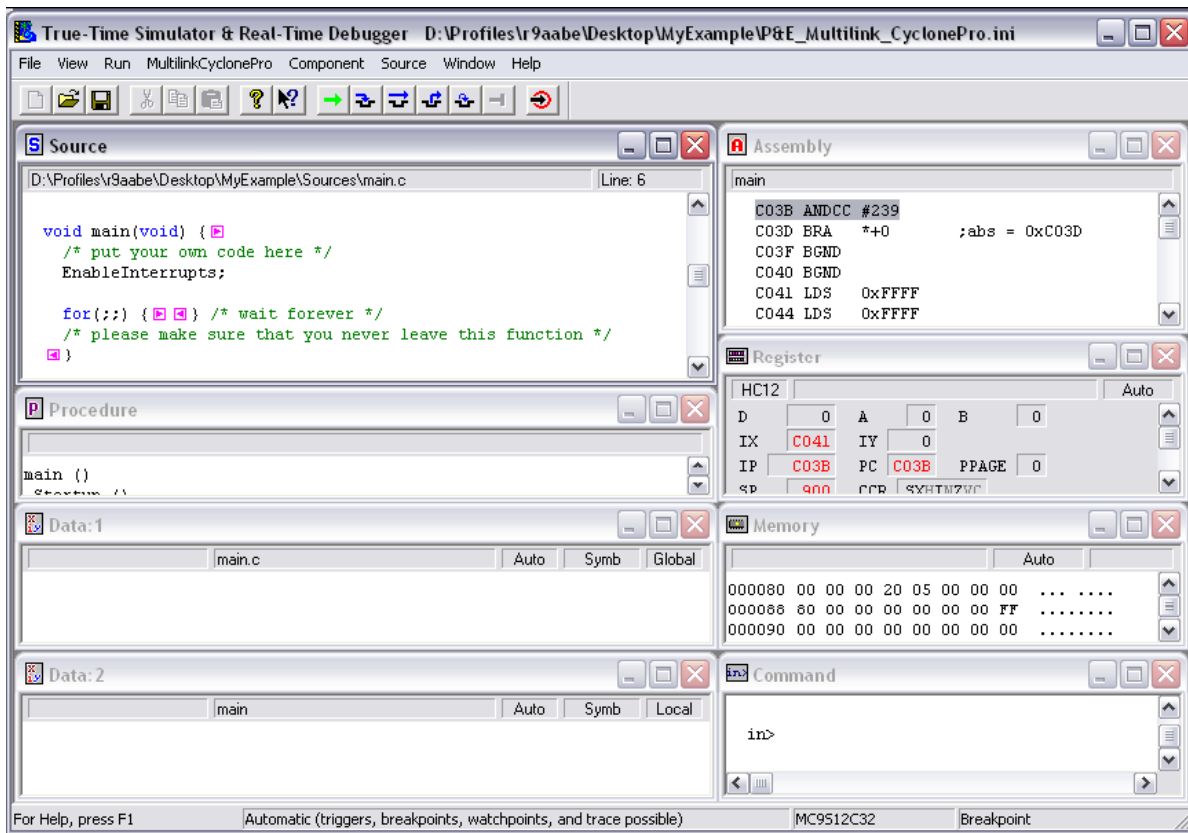

Figure 16. CodeWarrior Debugger Window
- d) Once the debugger is launched a window similar to Figure 16 will appear. The operation of the various sub windows is listed in Table 1 on the subsequent page. The configuration of sub-windows can be user configured and saved using File->Save Workspace